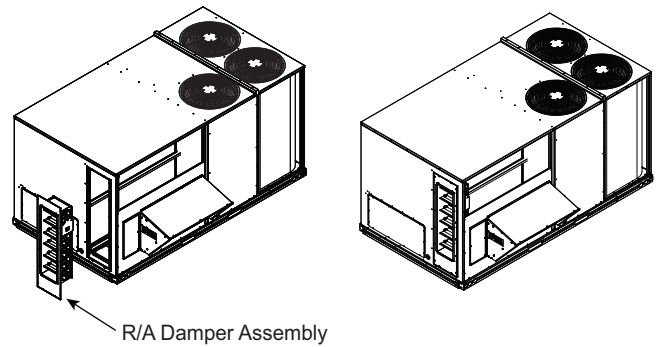

Fig. 10 — Install the R/A Damper
19. Attach the R/A damper assembly into the horizontal return duct opening using the provided screws. See Fig. 10.